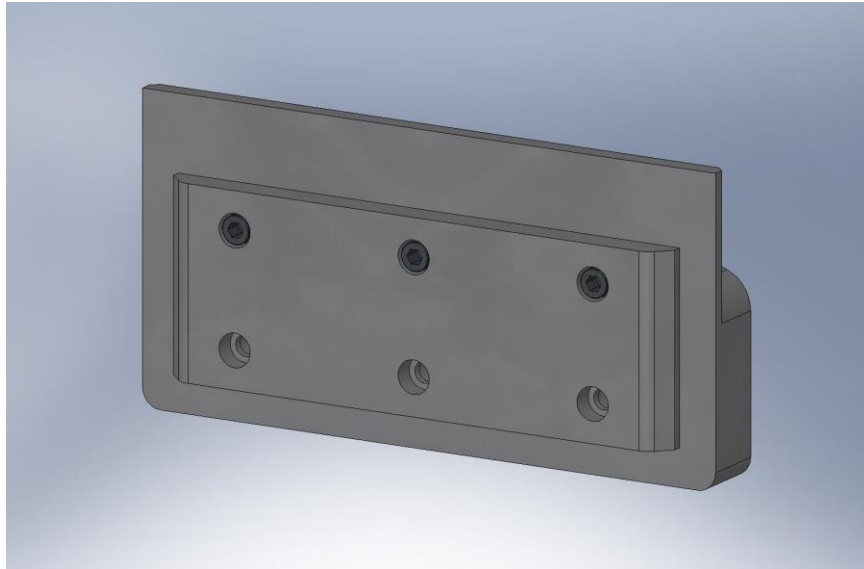

Figure 4.71. Attach Standoff to outside of Left Rail, using top row of screws.
- Screw **GS-13 Install Standoff** (D071312) onto outside of **GS-13 Install Left Rail** (D071311), as shown in Figure 4.71.